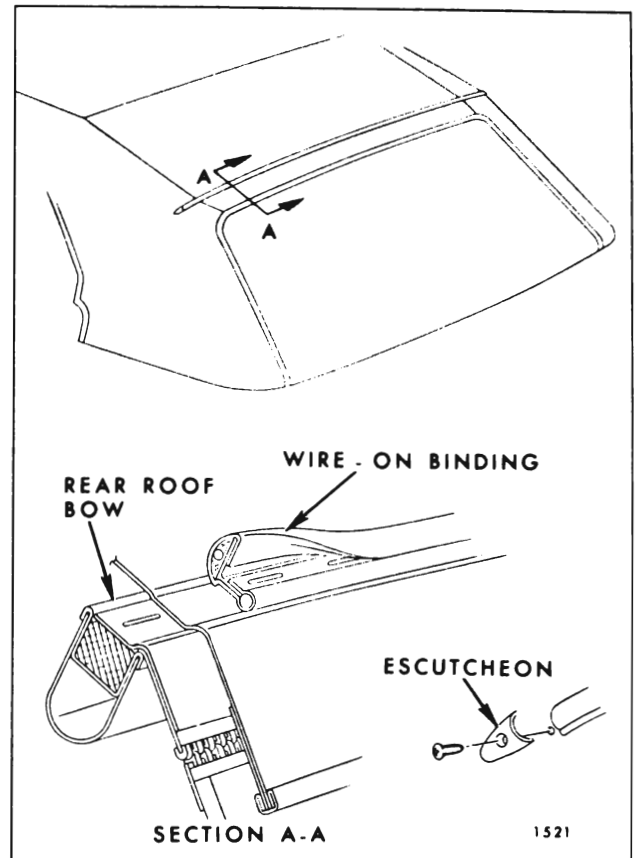

Fig. 13-50—Rear Roof Bow Wire-On Binding
9. Remove screw securing escutcheon clip at each end of wire-on binding on rear bow. Remove wire-on binding from rear bow (Fig. 13-50).